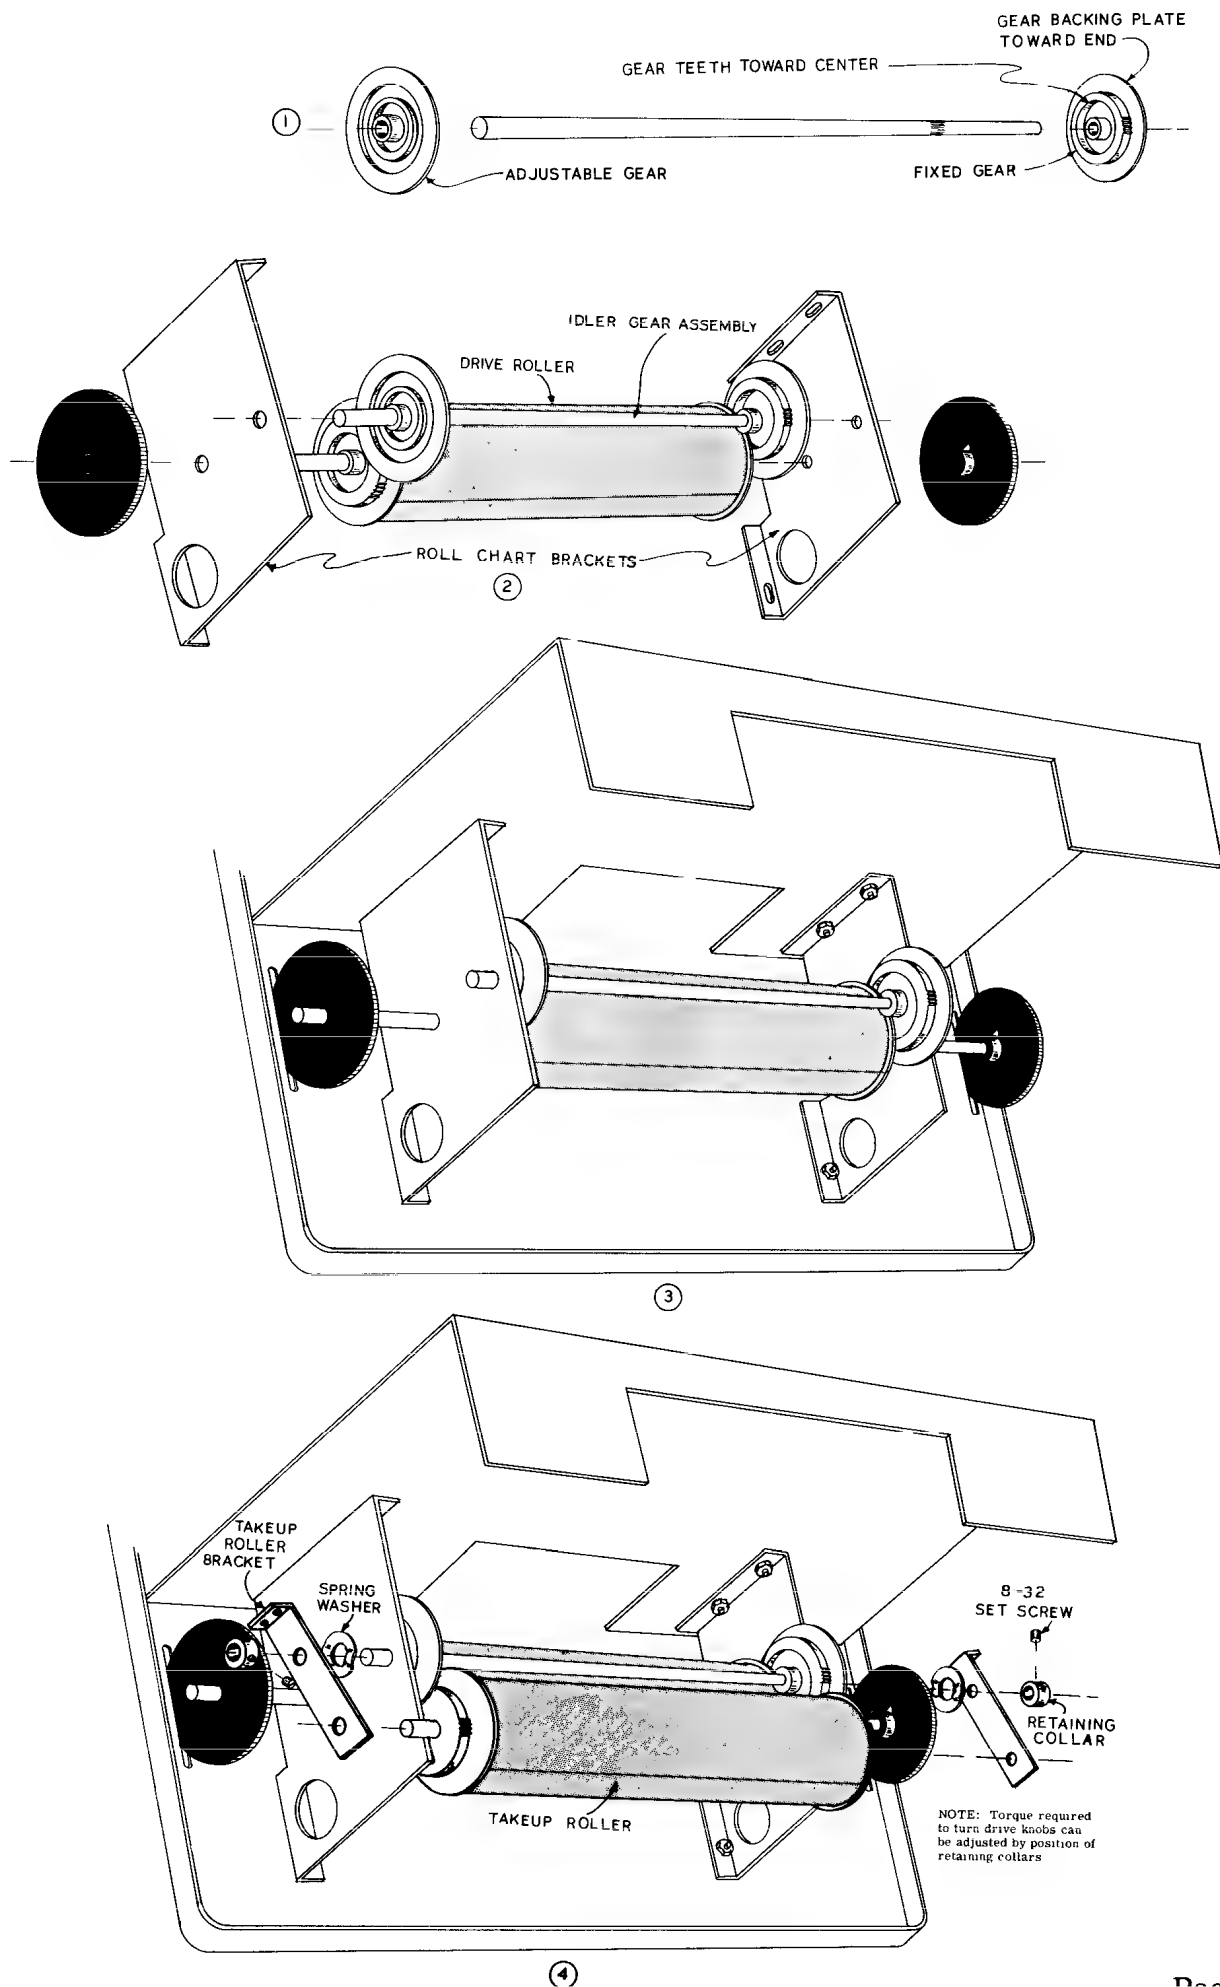

Figure 7
Refer to Figure 7 in the construction of the roll chart assembly. The two rollers supplied with the kit are identical in every respect except shaft length. The roller with the longer shaft is the drive roller. The roller with the shorter shaft is the take-up roller.
- () Place the take-up roller on the end brackets as shown in step 4 of Figure 7, and roll it toward the chassis. The gears at both ends should mesh with the idler gears while the shaft maintains contact with the end bracket.